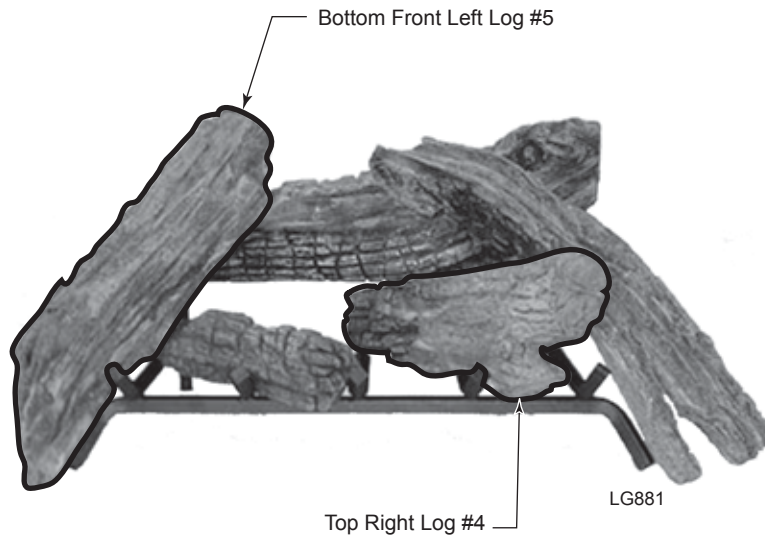

**Figure 65 -
5. Rest right end of Top Right Log #4 on bottom right log. *Figure 65*
6. Rest Bottom Left Log #5 on back log #1 and to the outside of the left grate prong. *Figure 65*